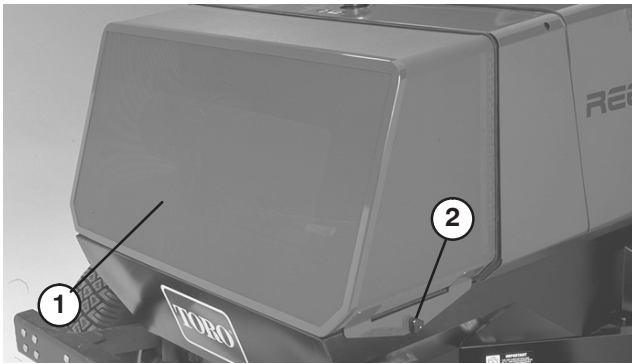

Figure 34
2. Remove knobs securing rear screen to frame and remove screen (Fig. 34).